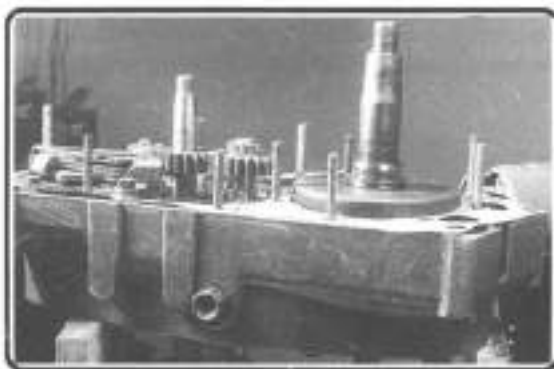

Figure 39. Crankcase guide studs.
- 22.10. Saw the heads off some long metric bolts to use as studs to guide the magneto half of the crankcase onto the layshaft. These eleven studs will also help to hold the gasket in place during assembly. One of the bolts should have a slot sawed into the end of it so it can easily be removed with a screwdriver. See Figure 39. Place a gasket on the studs.
In figure 39, the gasket is placed on the guide studs:
- 22.11. Place the 13 rollers on top of the *layshaft shim* (4-128). Figure 39 shows the rollers in position on the layshaft. Putting transmission oil (*non hypaká*) or grease on the rollers will cause them to stick to the shim and the layshaft and there is less chance of them becoming dislodged during assembly. If you use grease, the rollers will stick better but may also stick to the crankcase if they fall off and you may not hear them rolling around when you shake the crankcase to see if there are any loose parts after assembly.